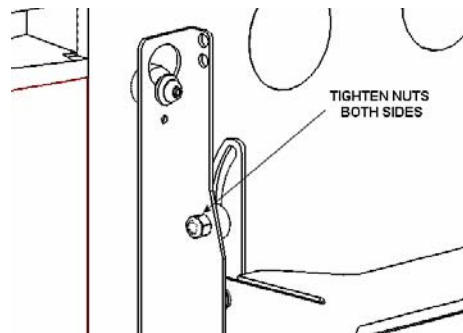

Figure 7
- Set mount to desired tilt and tighten nuts, a 1/2" wrench required (See Figure 7).